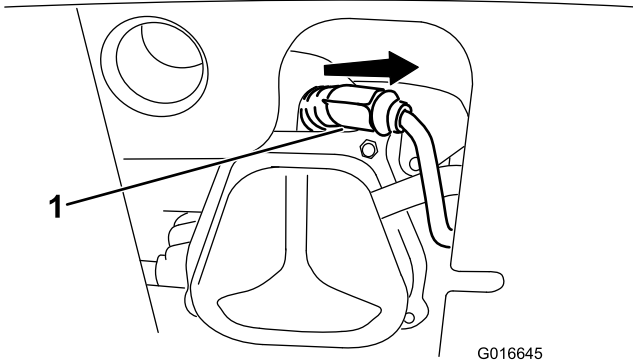

Figure 43
1. Remove the boot (Figure 43).